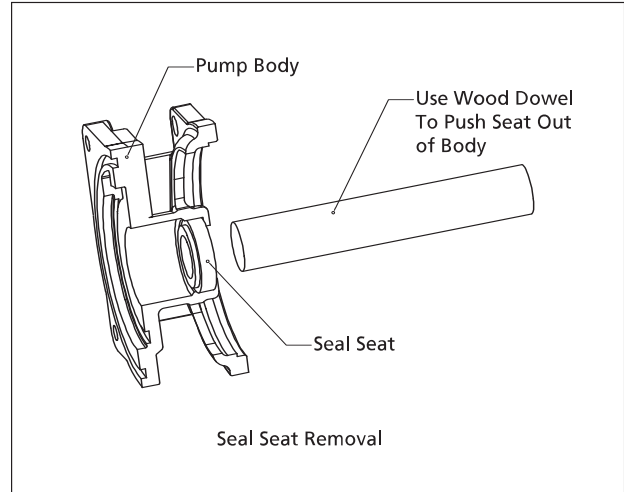

Figure 5 - Seal Seat Removal
- Remove the pump body (Ref. No. 2) and push out the seal seat (part of Ref. No. 4a) with a wooden dowel to remove the seal seat (See Figure 5).